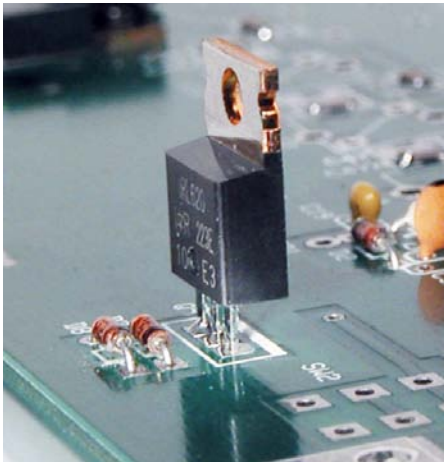

Figure 22. Installing Transistor Q4.
- Install transistor Q4 (620) in the space provided near diodes D7 and D8 as shown in Figure 22. **Be sure the leads are inserted until their shoulders are against the top of the PCB. If the leads are not inserted far enough, the tab on the top of the transistor may short against the top cover when the cabinet is assembled.** Trim the leads as short as possible on the bottom of the PCB.